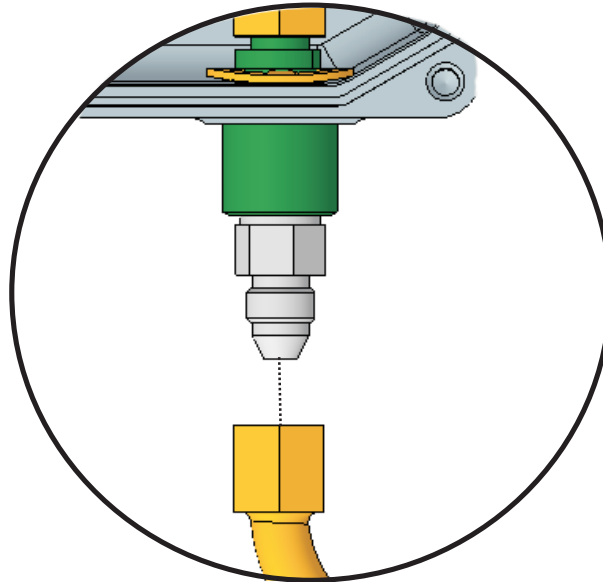

Figure 4-84. Fitting on Outside of UCH Control System
8. After ensuring there is no leakage, loosen the swivel fitting located at the bottom right side of the UCH Control System (see Figure 4-84). Allow the pressure to vent slowly. When the pressure is completely vented, disconnect the fitting and remove the cover.